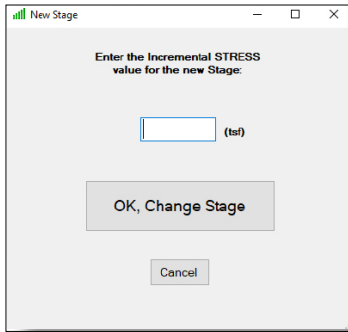

Figure 10: Incremental Stress Value for New Stage
6. After the completion of the first stage, select **New Stage** then enter the next incremental stress value (Figure 10). Once entered select **OK, Change Stage** and apply the next load to the sample. Repeat this step for each additional stage.